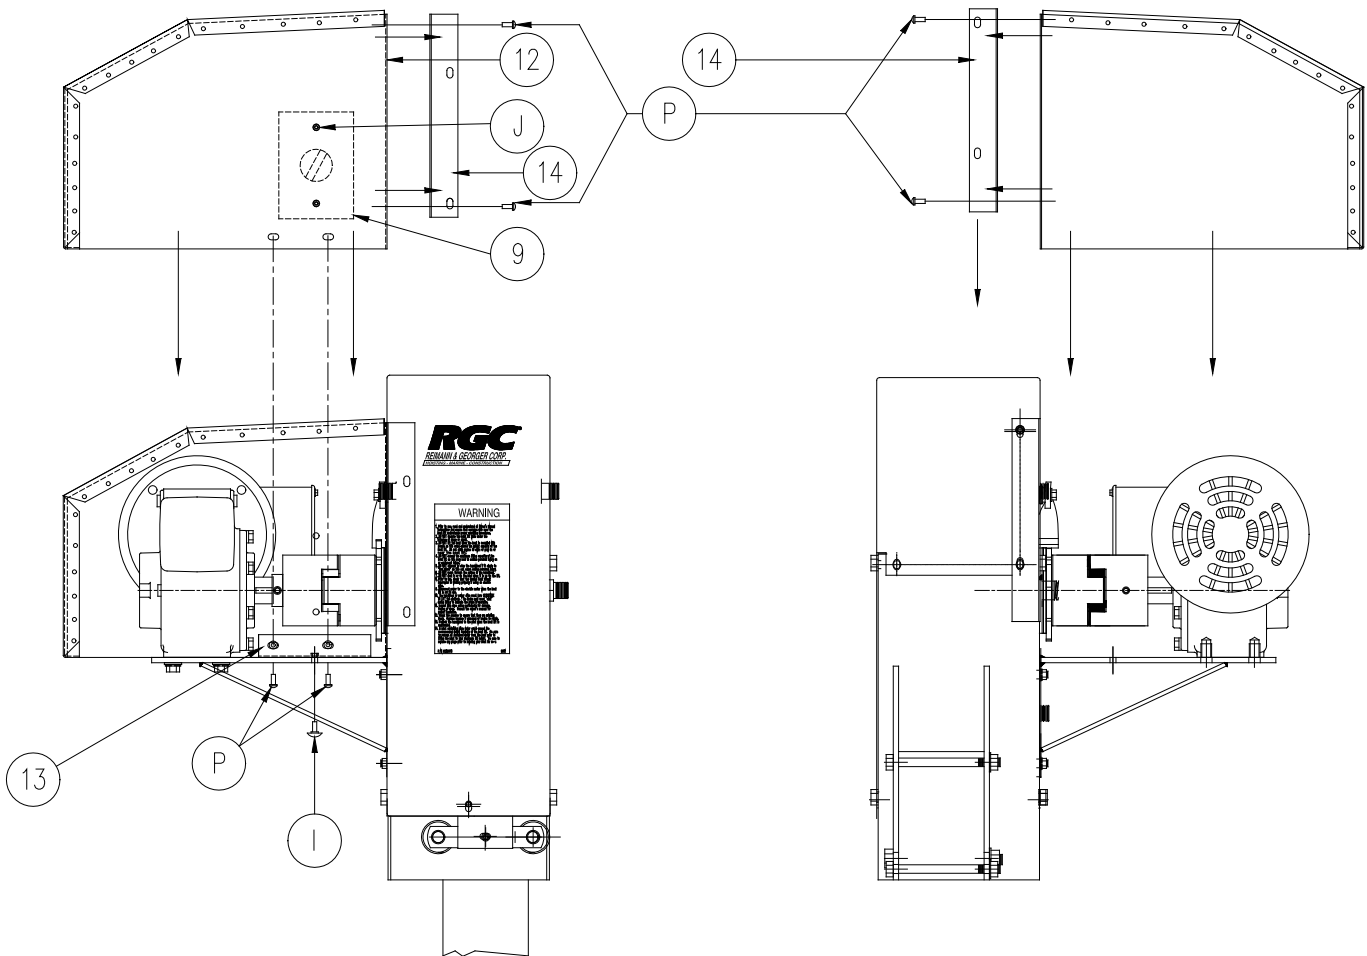

Figure 2-3
1. Refer to Figure 2-3, using a #2 Phillips screwdriver, fasten the long winch mounting bracket (14) to the backside of guard (12) with 1/4 -20 x 1/2 machine screws (P).
2. Fasten short mounting bracket (13) to the gearbox mounting plate with 1/4 -20 x 1" machine screws.